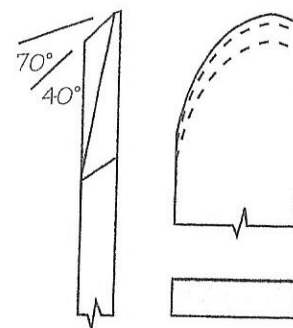

Fig. 23
**1 Round side-cutting scraper (Fig. 23).** This is a useful shape for bowls, goblets and similar projects. There is an advantage in introducing a second bevel as shown in Fig. 23. This not only retains an angle of 70° but it also